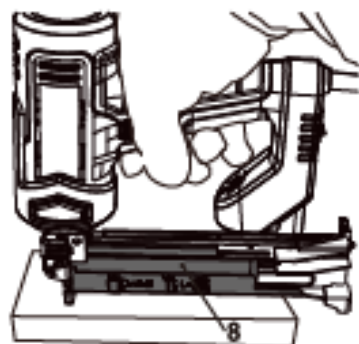

Fig. 12
- Empty the magazine (8) and switch on the product after connecting with the power supply, attempting to fire 3-4 times on a piece of scrap soft wood (Fig. 12).
- Load the magazine (8) with the nail strip / staple strip (14 / 16) and attempt to fire 3-4 times on a piece of scrap soft wood.